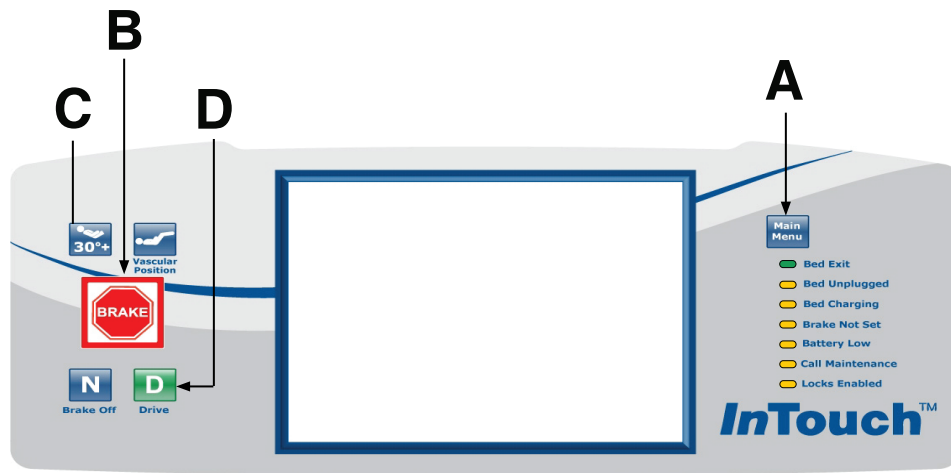

Figure 3 – Accessing the configuration menu
2. Push and hold the **Main Menu** button (A) located in the upper right corner of the footboard control panel (Figure 3). Continue to hold the **Main Menu** button while executing steps 3-5.
3. Push and hold the **Brake** button (B) for 5 seconds and then release (Figure 3).
4. Push the **HOB 30°+** button (C) once and release (Figure 3).
5. Push the **Drive** button (D) once and release (Figure 3).